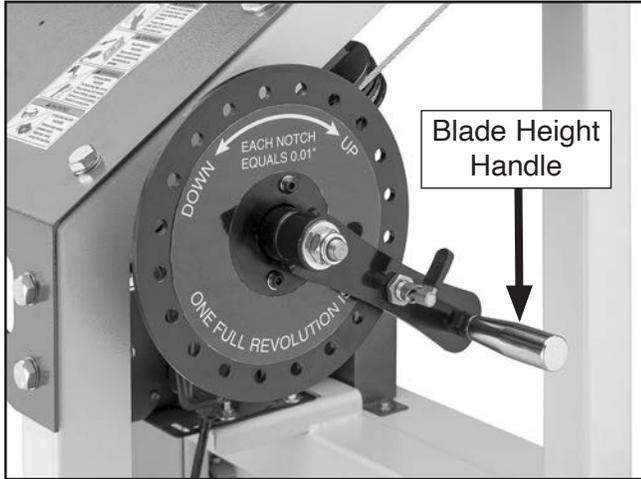

Figure 53. Location of blade height handle.
64. Turn blade height handle (see **Figure 53**) clockwise until blade is higher than log bunks, log supports, and log clamps.